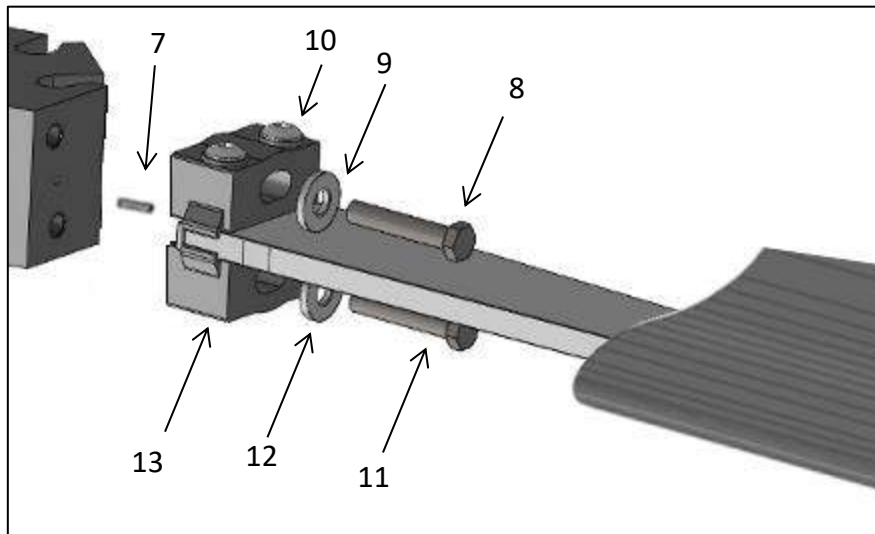

Figure 8 – Blade installation
1. For secondary adjustment only: loosen the two bolts connecting blade to hub (8 and 11) (Figure 8).